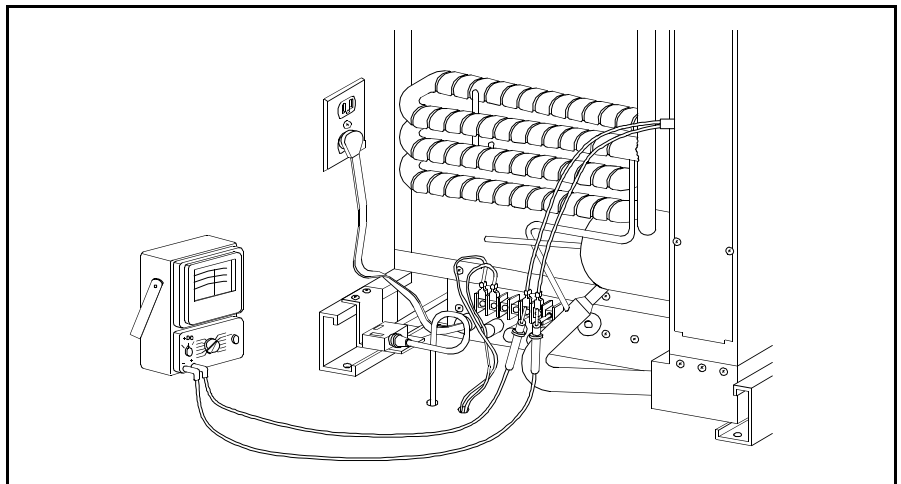

Figure 3.39 120 Volt Check at Heater Connections
12. Check for 120 Volts AC at your heater element connection as shown in Figure 3.39.